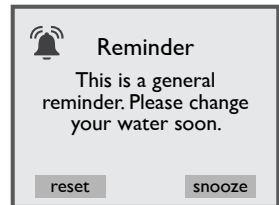

Figure 12.6f
4. When the timer expires, a message will appear on the control panel display, Figure 12.6f. The water must be drained and replaced with fresh water. Follow the instructions above to reset the timer. If you tap “snooze” the message will clear but the error icon  will display and the reminder screen will reappear in 10 days. Refer to Section 13.1, page 61, for filter location.